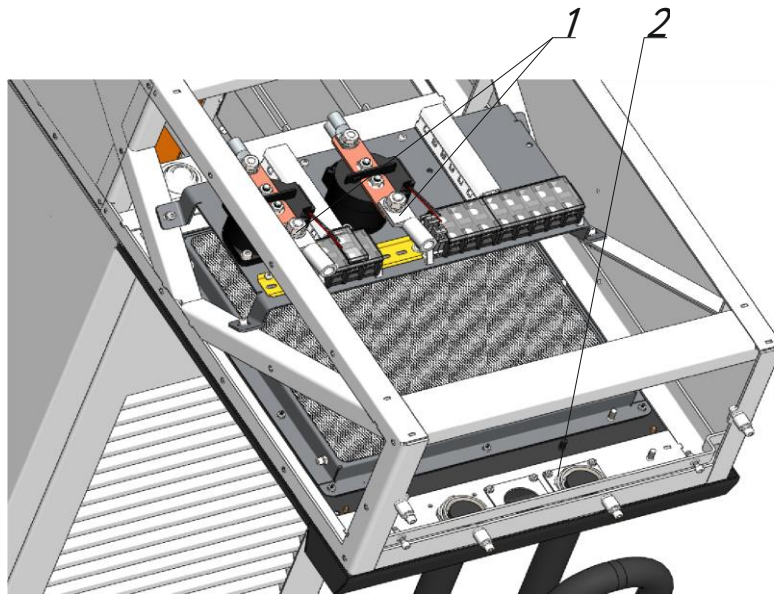

Figure 7.9 Connecting the connector cable
2. Unscrew the cable lugs 1 (Figure 7.9).
4. Unscrew the cable entry nut 2 (Fig. 7.9).
1. Open doors 1-4 of the charging station (Figure 7.9).